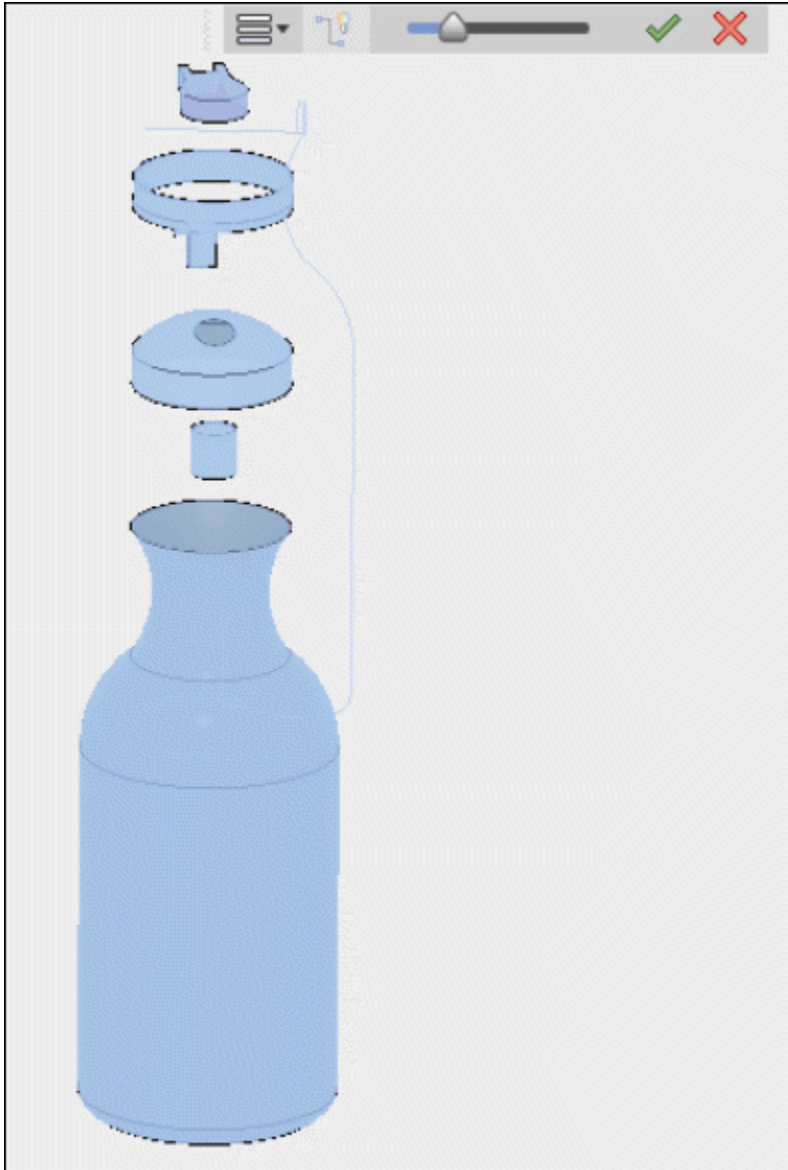

Figure-44. Preview of Explode
- Click on the screen to view the separated component properly; refer to Figure-44.